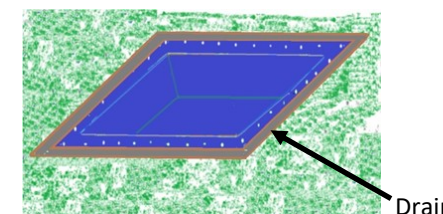

Figure 9
6. Construct a drain with 30cm width and 30cm depth around the edges of the plastic sheet which was covered with soil or mud as shown the figure 9. The drainage should slope towards a suitable drain out area.